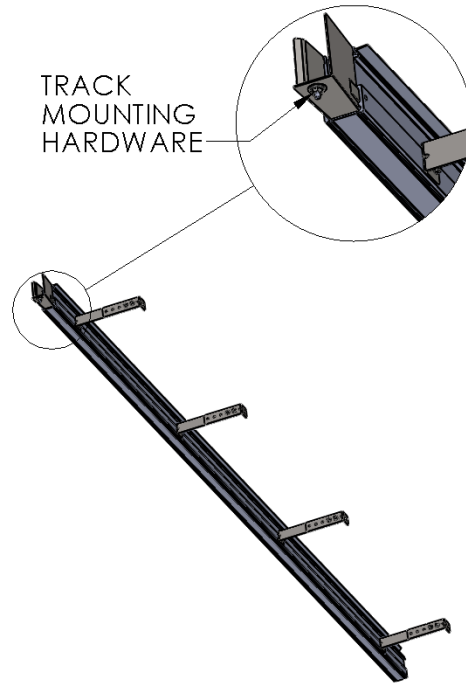

Figure 9 TRACK MOUNTING HARDWARE
1. Starting with either left or right side, loosely “hang” the track assembly by its Transition Bracket Mounting Hardware. Setup and generally align the track under its respective main upper roll assembly mount bracket. (Figure 9 TRACK MOUNTING HARDWARE)